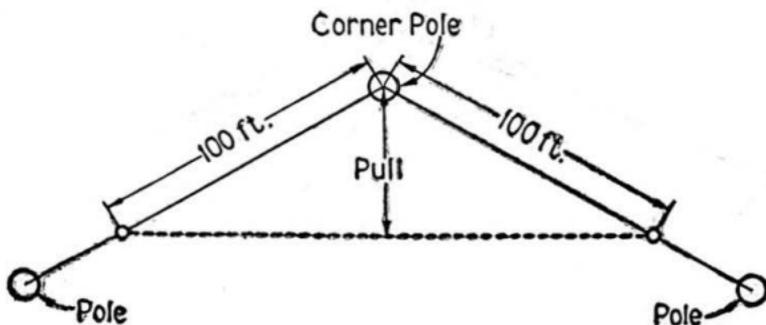
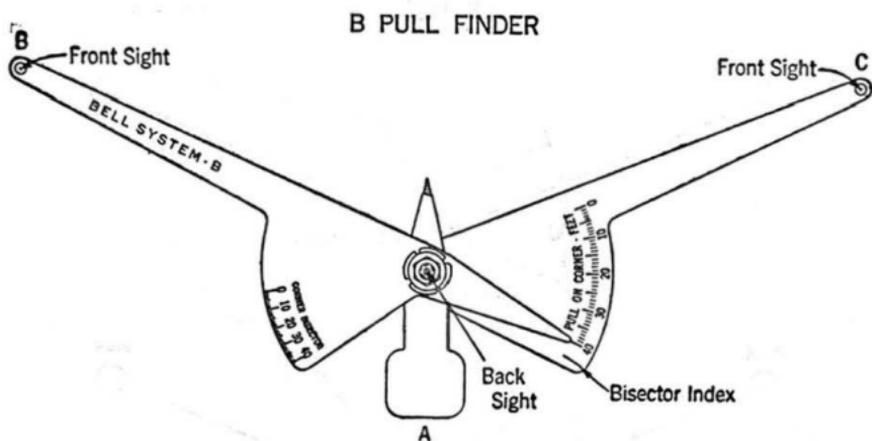

Fig. 4
Fig. 6
3.01 Pull at a corner pole is defined as the distance in feet measured as shown in Figs. 4 and 5.
3.02 Figs. 4 and 5 serve merely to define pull at a corner pole; in general, it will be more convenient to measure pull with the B Pull Finder shown in Fig. 6.